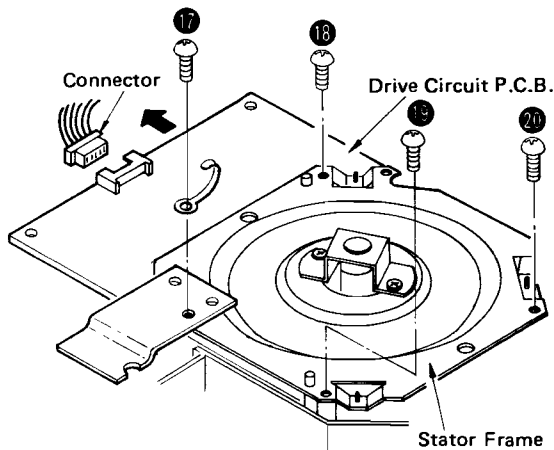

Fig. 9
2. Remove the 4 setscrews (Fig. 9: ⑰ ~ ⑳) of the stator frame.